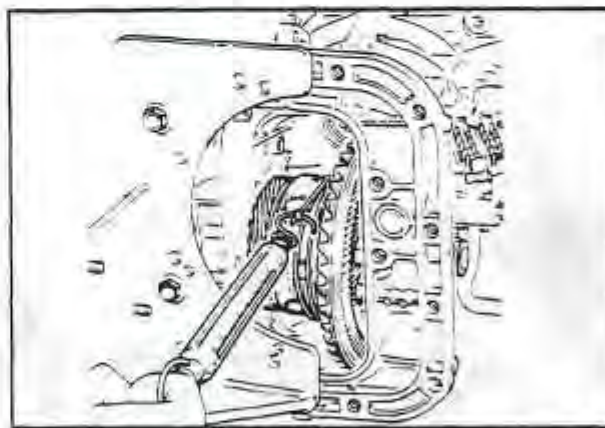

Fig. 81 DIFFERENTIAL CARRIER PRE-LOAD
- f. Wrap a piece of string around the differential carrier housing and measure the pre-load by pulling on the string with a spring scale. Take the reading while the carrier is rotating. Fig. 81